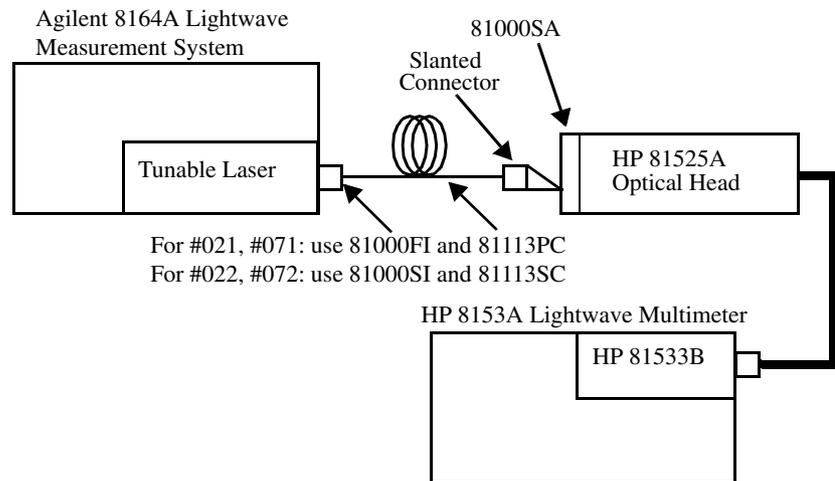

Figure 19 Test Setup for the Maximum Output Power Tests
- 1 Set up the equipment as shown in Figure 19.
- 1 Set up the equipment as shown in Figure 19 (remember to calibrate the Agilent 81001FF Attenuation Filter if using 81524A).